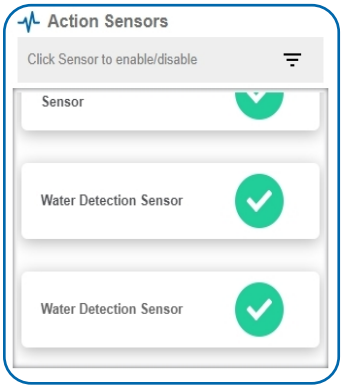

Figure 21
- By default, the sensor(s) will not be assigned to the action conditions you've just set. To assign a sensor, find the device(s) you want to designate for this action and select. Selected sensor boxes will turn green when activated. Choose the sensor box again to unassign the sensor from the action. See Figure 21.